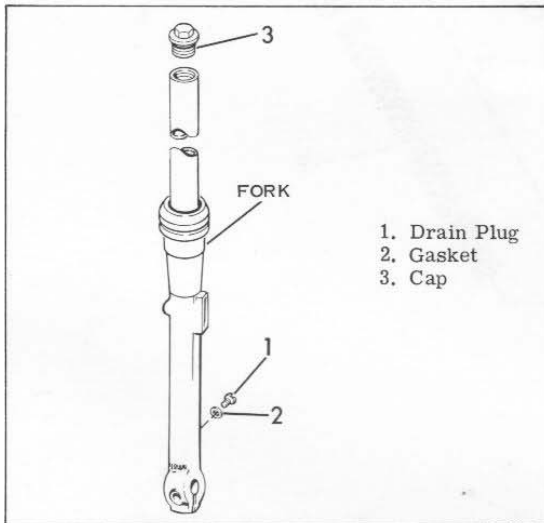

Figure 2.21. Front Fork Lubrication
To drain fork oil, support front end of motorcycle so that front fork is fully extended. Remove upper fork cap (3), Figure 2.21. Remove lower drain plug screw (1) from each fork side and allow all oil to drain from fork.